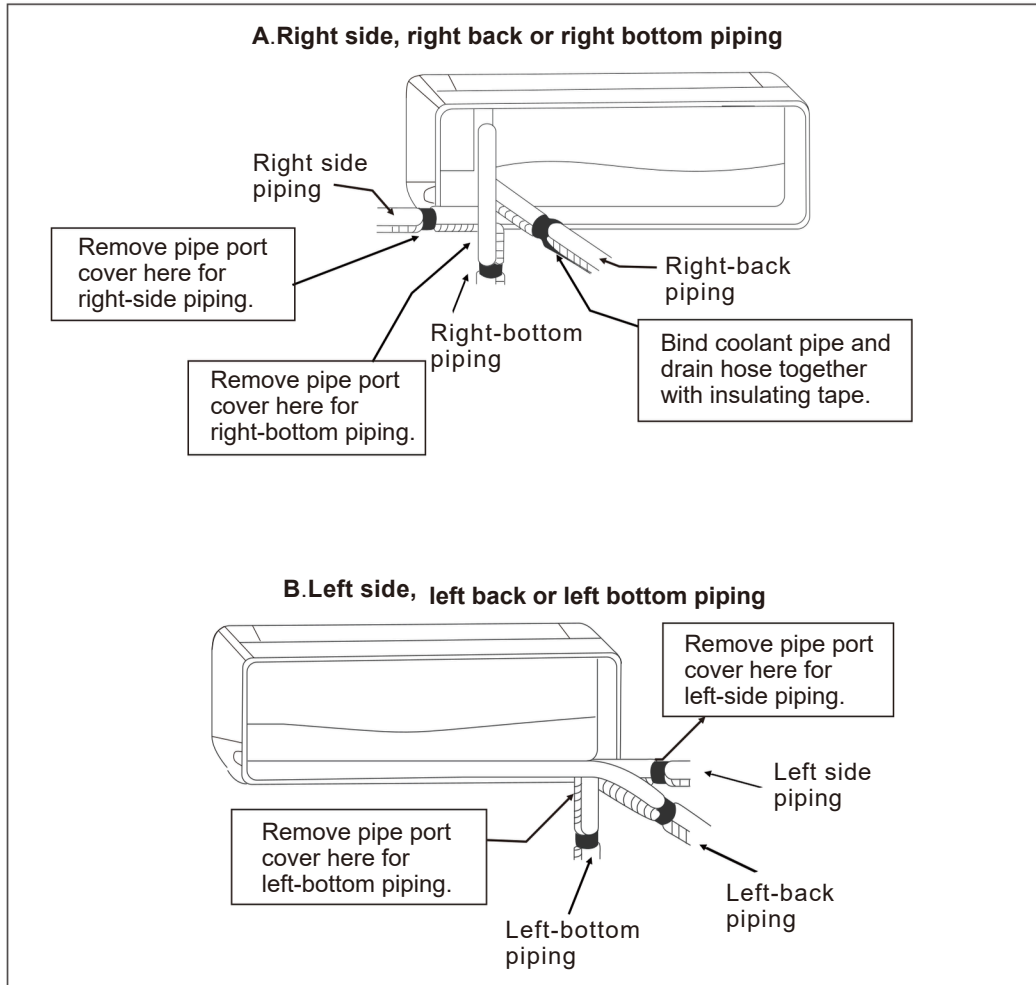

Fig 1
- 3.Wrap the inter-unit wire, refrigerant pipes, and drain hose together with insulation tape. (see Fig 1)